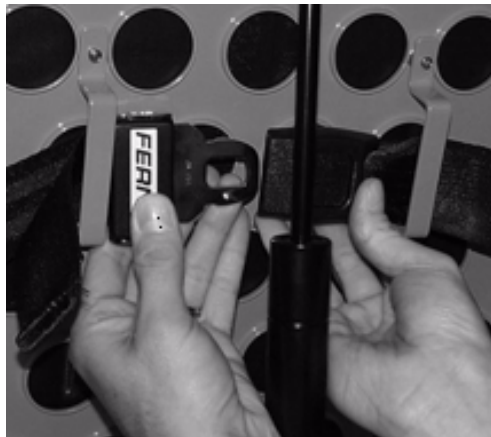

Figure 78: Fastening the Pedi-Mate® Buckle
4. Wrap the straps around the backrest and insert the ends of the straps through the brackets. Securely fasten the buckle (see Figure 78).